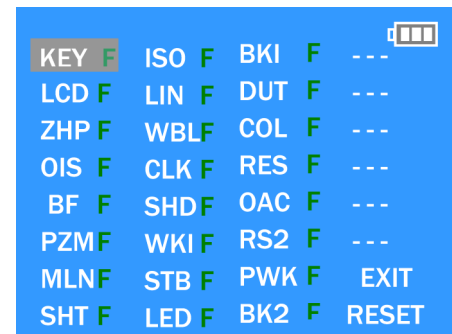

Fig.3-2
1. After pressing the “[W] side of Zoom lever”, the LCD monitor displays the Flag status screen (Refer to Fig.3-2)